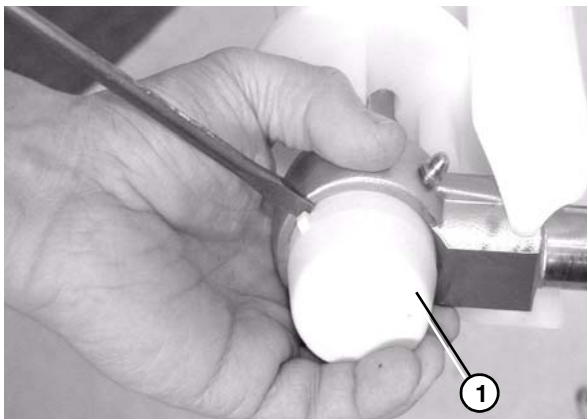

Figure 60
3. Remove the bearing cover (**Figure 60, item 1**).
6. Attach the bearing covers. Reference (Figure 60).